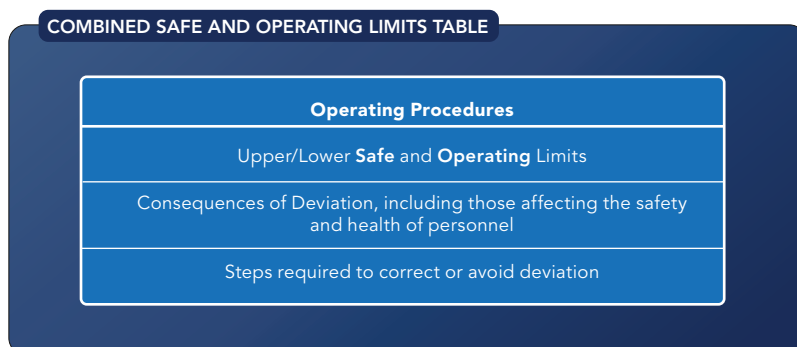

Figure 2. A table containing both kinds of limits can reduce the chance of discrepancies arising over time.
2. Combining the PSI and OP requirements into limits tables in the OPs (Figure 2).